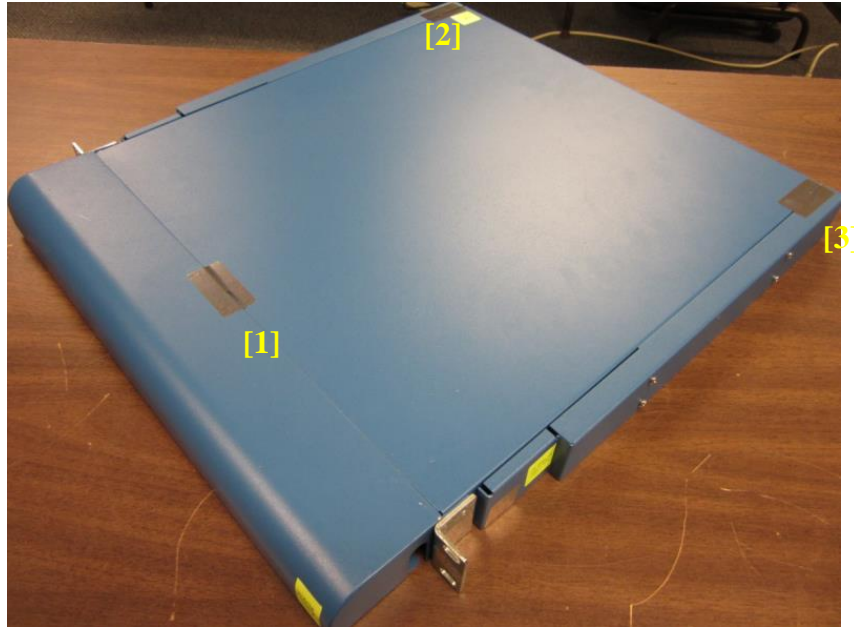
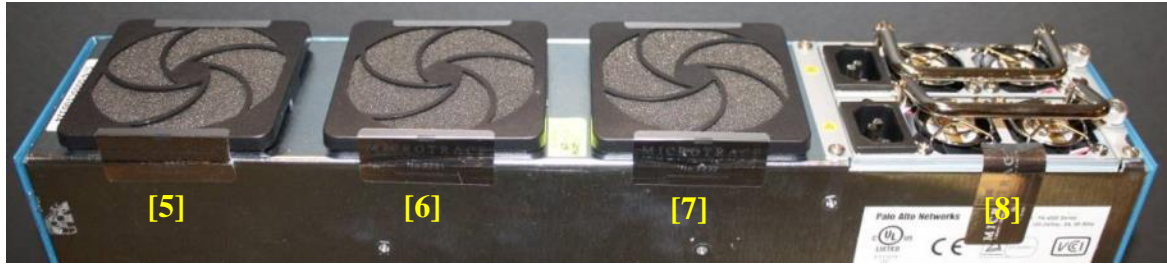

Figure 40 - PA-3020/PA-3050 Series Tamper Seal Placement (3)
Figure 42 - PA-3020/PA-3050 Series Tamper Seal Placement (2)
Refer to Appendix D for instructions on installation of the tamper seals and opacity shields for the PA-3020 and PA-3050. The locations of the seven (7) tamper evident seals on the PA-3020/PA-3050 modules are shown in Figure 40 through Figure 42.